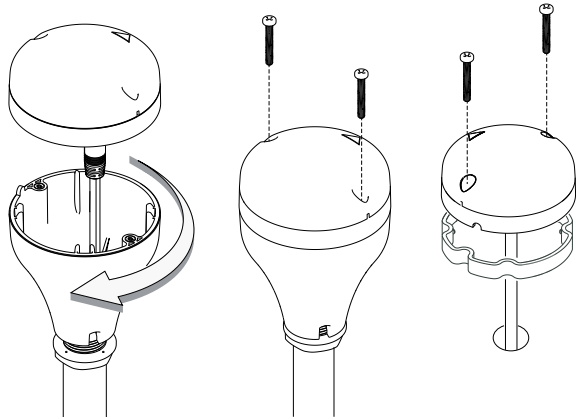

Figure 7 GPS antenna mounting
- Mount the pole into position as shown in Figure 7.